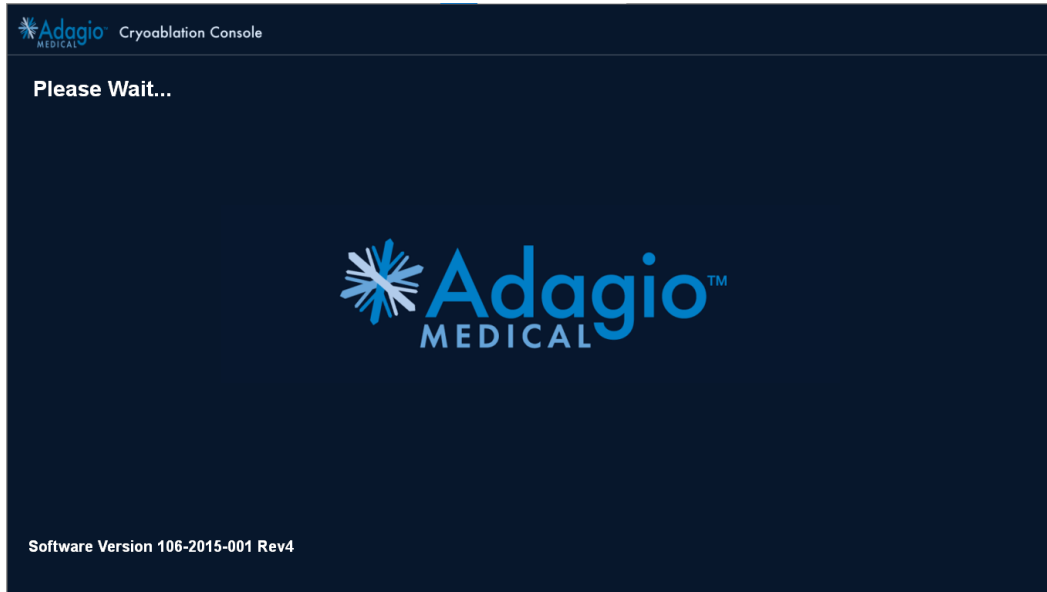

Figure 64 – Splash screen image
4. The system will automatically check the communication among its components. While this is in-progress, the following splash screen (Figure 64) will appear. There is no need for user intervention at this time. If the Adagio Medical logo does not appear, click the task view (Figure 65) and select the Adagio Medical GUI application.